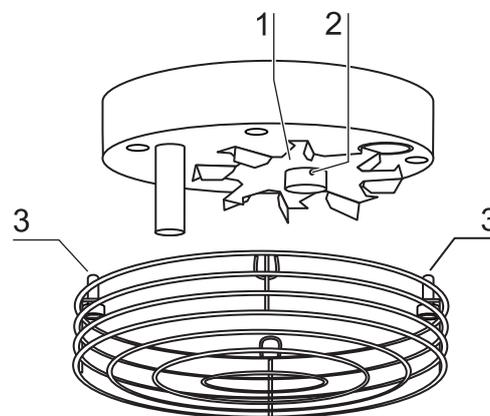

Fig. 21
1. **Fig. 21:** Remove the two retaining screws [3] of the cover using the supplied Allen wrench (3 mm) and remove the cover.